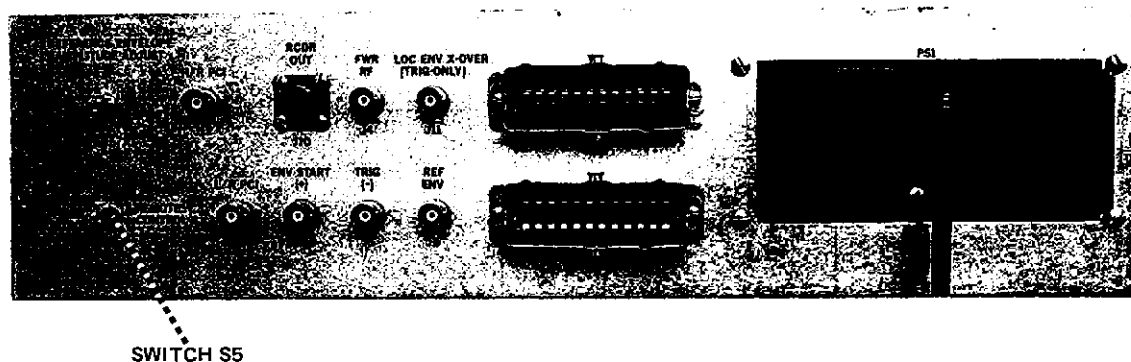

Figure 2.3. EPA Rear Panel Location of Switch S5
2.3.5.2 Set the FRONT PANEL CONTROL/REMOTE CONTROL switch (S5), located on the rear of the EPA (Figure 2.3), to the FRONT PANEL CONTROL position.